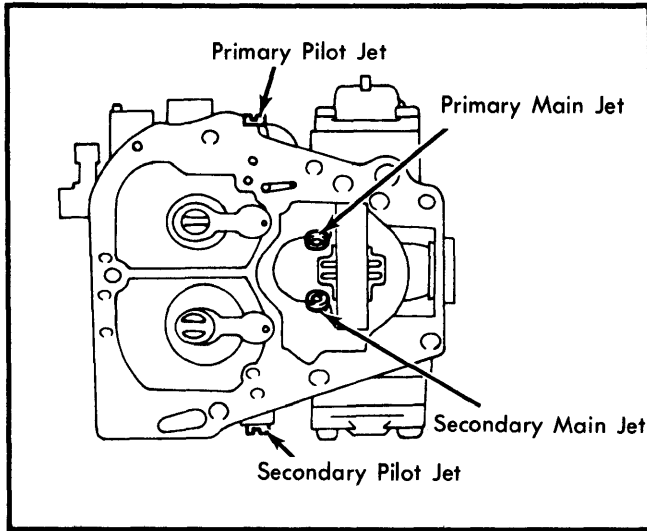

Fig. 7 Location of Primary and Secondary Jets
4) Remove fuel cut-off solenoid, main jets and pilot jets, using a screwdriver blade that matches the groove of jets. See Fig. 7. Do not tamper with factory pre-set bypass screw or adjusting screw, both of which have white paint on their heads.